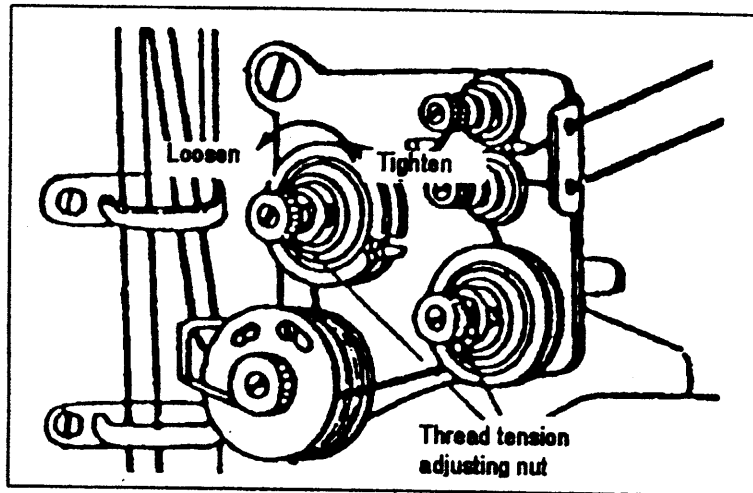

Fig.7
2) Tension of the upper thread (Fig.7)